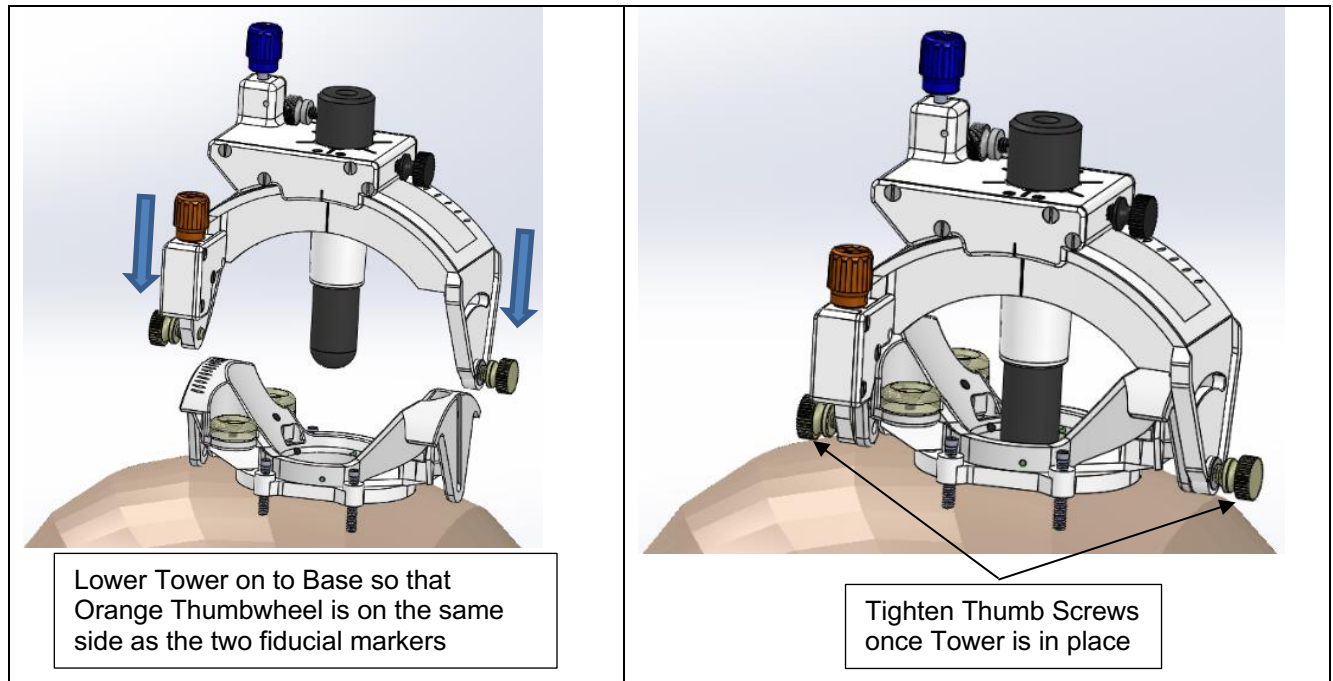

Figure 8: Assembling the Tower to the Base
2. Grasp the Tower by the top rectangular gear housing. Align each screw with the mating grooves on the Base. **See Figure 8.** Slide the Tower into place and ensure screws seat into the mounting holes on the Base. Tighten the Tower side thumb screw to secure the Probe Adapter inside the tower.